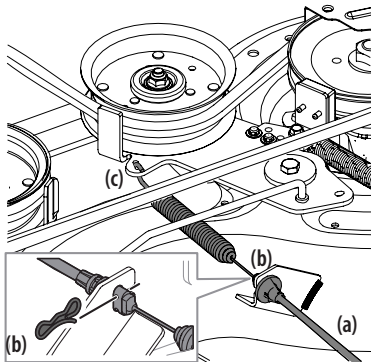

Figure 34
10. Carefully remove the PTO cable (a) from the rear of the cutting deck by removing the bow-tie clip (b) which secures it. Remove the spring (c) from the deck idler bracket. See Figure 34.